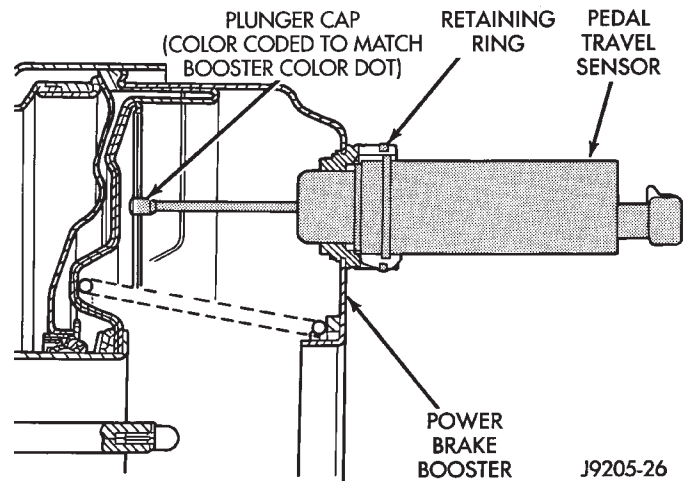

Fig. 8 Pedal Travel Sensor Mounting
- (1) Disconnect wires at sensor.
- (2) Pump brake pedal to exhaust all vacuum from booster.
- (3) Unseat sensor retaining ring.
- (4) Remove sensor from booster (Fig. 8).